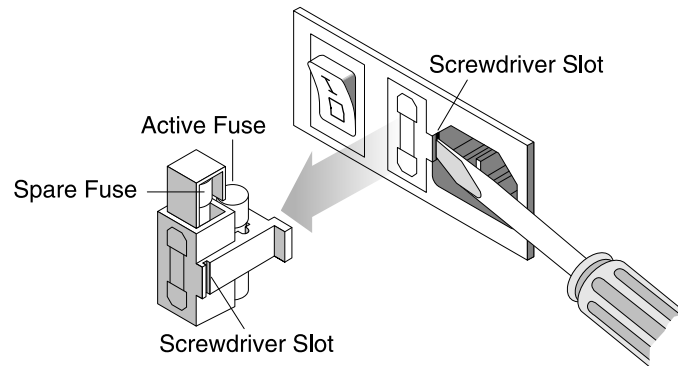

Figure 2-1. Fuse Holder
4. Power up the computer and press the power on (I) switch on the rear panel of the Tester.
6. If the LED still does not light, press the power switch off, remove the cables, and check the fuse, located next to the power switch as shown in Figure 2-1.